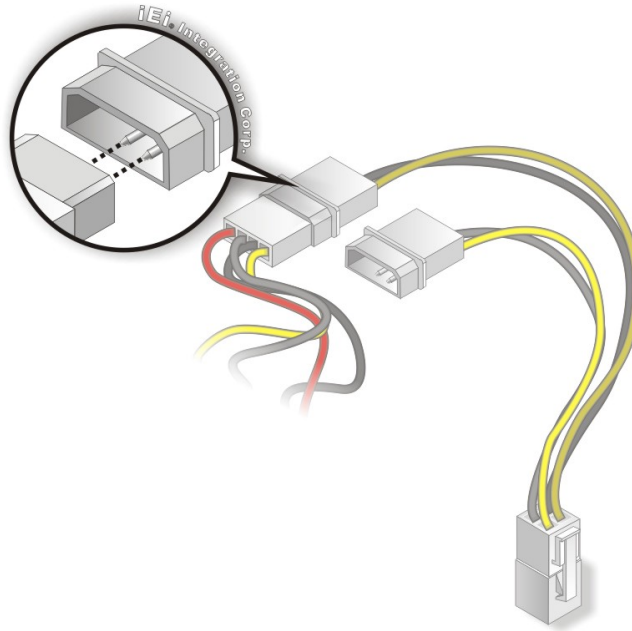

Figure 4-14: Connect Power Cable to Power Supply
Step 3: Connect power cable to power supply. Connect one of the 4-pin (1x4) Molex type power cable connectors to an AT power supply. See Figure 4-14.